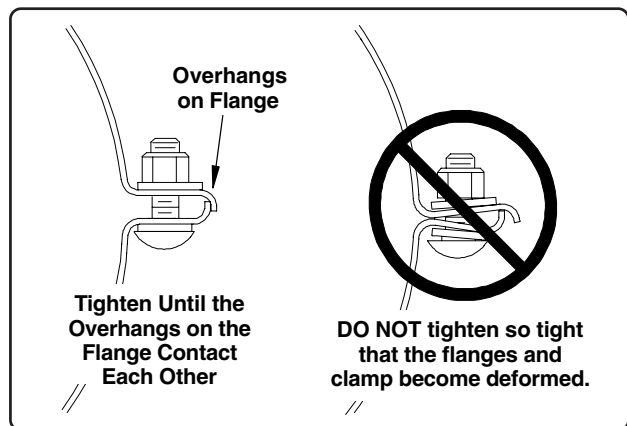

Fig. 25
**IMPORTANT!** The overhangs on the flanges are meant to be tight against each other, but Do Not tighten so tight that the flanges are crushed and become deformed (See Fig. 25). NOTE: If it is impossible to get the connecting band tight on the auger tube without overly deforming the clamp, a new connecting band may be necessary.